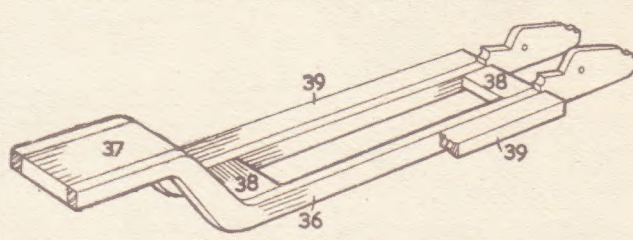

Fig. 8—Chassis of trailer portion
Now turn to the trailer chassis assembly seen in Fig. 8. Notice the flat parts (39) glued on edge to 36 and flush